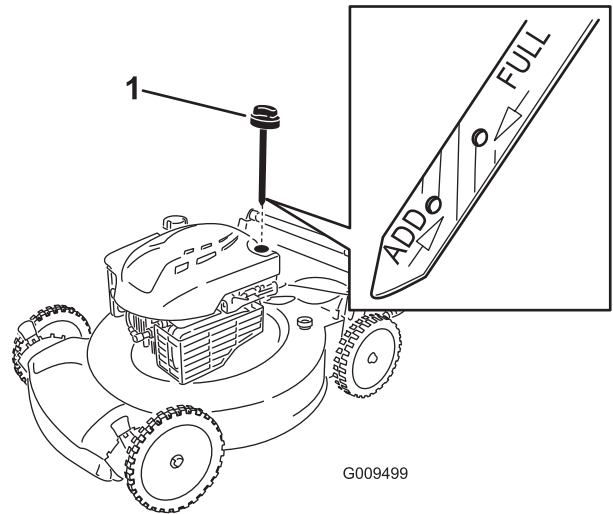

Figure 9
1. Remove the dipstick (Figure 9).
2. Slowly pour oil into the oil-fill tube until the oil level reaches the Full line on the dipstick (Figure 9). **Do not overfill.**